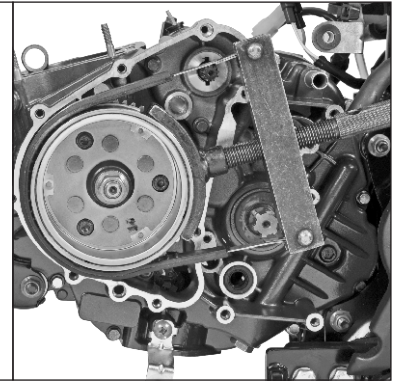

Fig. 1.17B
- Used to hold the magneto rotor while removing/assembling the primary drive gear and magneto rotor nuts. (Fig. 1.17B)